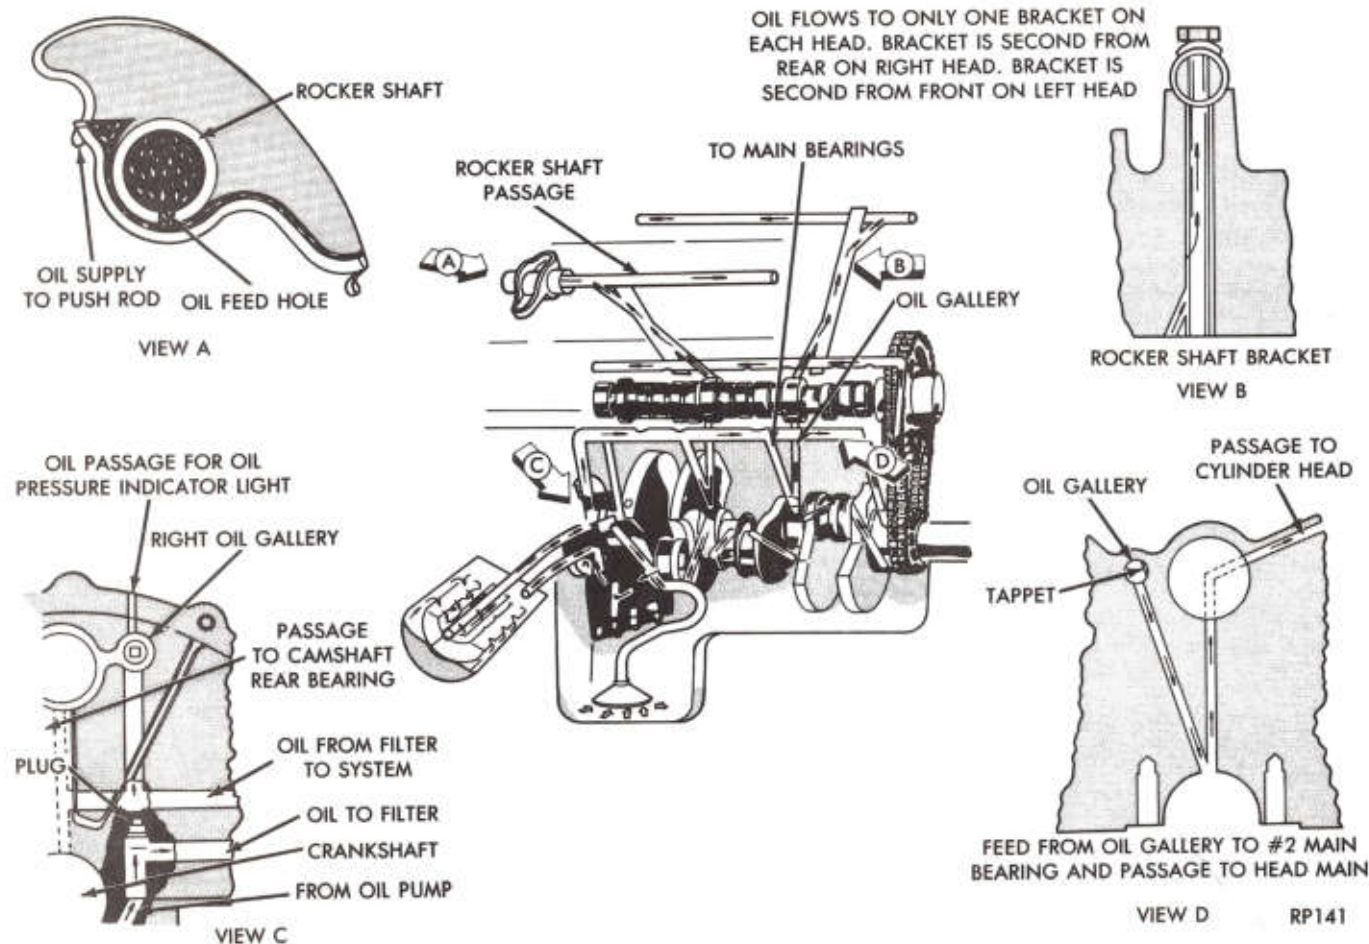

Fig. 53—Engine Oiling System
ENGINE OIL SYSTEM (FIG. 53)
the block between the Oil-To-Filter and Oil-From-Filter passages. (Fig. 53). Misinstallation or absence could cause erratic, low or no oil pressure.
- (1) Remove oil pressure sending unit from back of block.
- (2) Insert a 1/8" finish (3.175mm) wire or equivalent into passage.
- (3) Plug should be 7-1/2 to 7-11/16 inches (190 to 195.2mm) from machined surface of block. (See Fig. 53), and 2-1/8 to 2-5/16 inches (54.0 to 57.7mm) from bottom of the block.
- (4) If plug is too high, use a suitable flat dowel drift to position properly.
- (5) If plug is off position. Remove oil pan and No. 4 main bearing cap. Use suitable flat dowel to remove plug.
- (6) Upon reinstallation, use stud n' bearing mount adhesive P/N 4057987 on outside diameter of plug to insure retention of position. Assemble engine and check oil pressure.